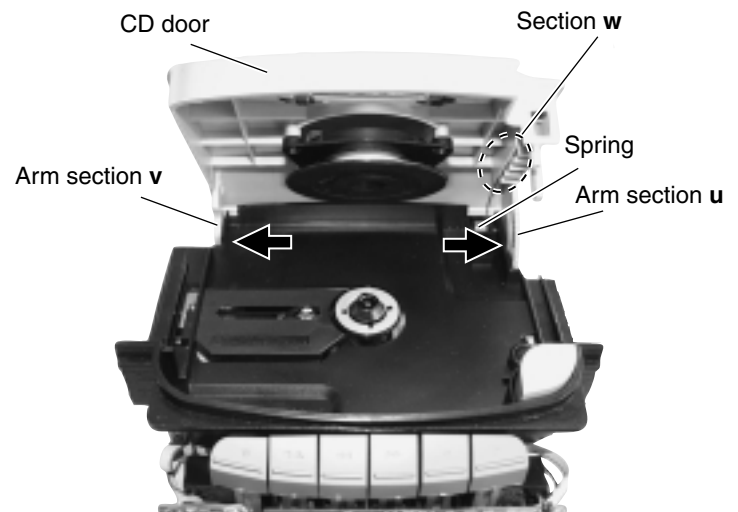

Fig.23
■ Removing the CD gear assembly (See Fig. 23.)
■ Removing the CD door (See Fig. 23.)